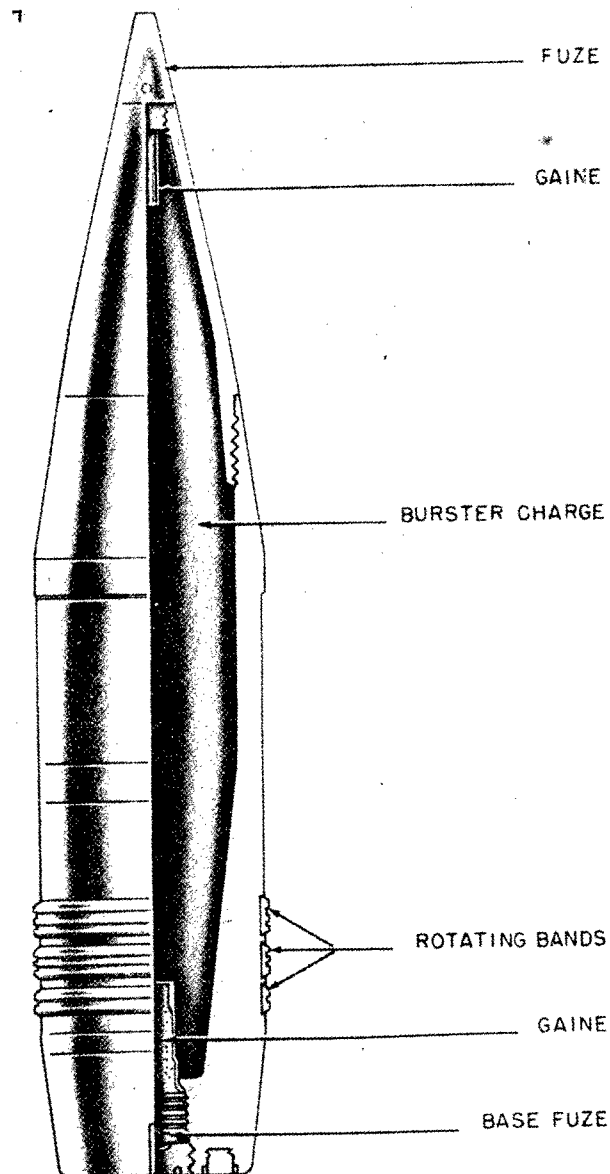

Figure 535—H. E. Projectile for 240-mm Czech Heavy Gun, 24-cm Gr. 40 (t)
**GERMAN NOMENCLATURE:** 24-cm Gr. 40 (t). (See fig. 535.)